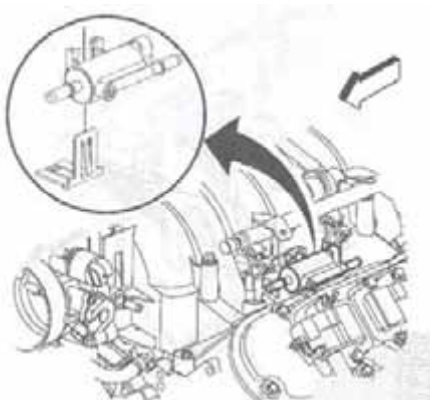

Fig.13
- 5) Remove and discard purge solenoid bracket. There is no provision on new manifold for this bracket.(fig.13).